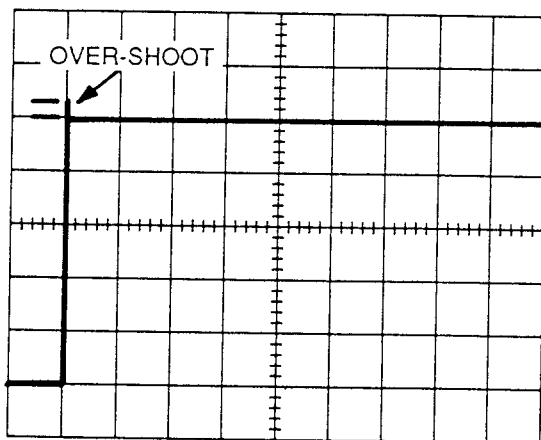

Fig. 4-2 Loop Gain
- C. Check that the over-shoot on the upper front corner of the pulse is no higher than 1 minor division and no less than a square corner (see Fig. 4-2).